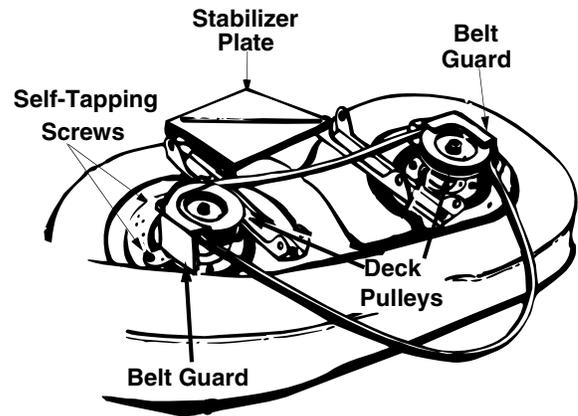

Figure 20
- Remove the belt guards at each deck pulley by removing the self-tapping screws. See Figure 20.